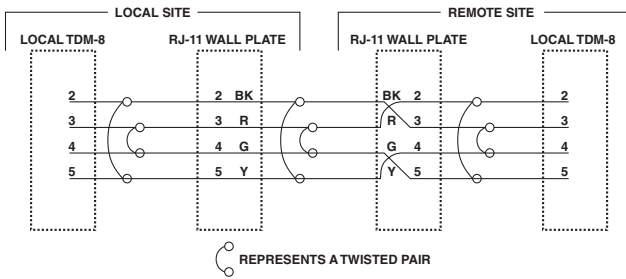

Figure 2. Installation Wiring Diagram.
See Figure 2 for the installation diagram. It is very important that the proper twisted-pair cable wires be crossed and the proper pairs be twisted.
6. Connect the Local TDM-8 COMP port to the RJ-11 wallplate using twisted-pair wiring as shown in Figure 2.
7. Connect the wallplate at the local site to the wallplate at the remote site using 24 AWG twisted-pair cable crossed as shown in Figure 2.
The cable from the local wallplate to the remote wallplate must be wired as shown in Figure 2 or the unit will not function properly. The wire size should be at least 24 AWG. 26 AWG wire may be used, but the ranges shown in Table 1 will be reduced by at least 30%.